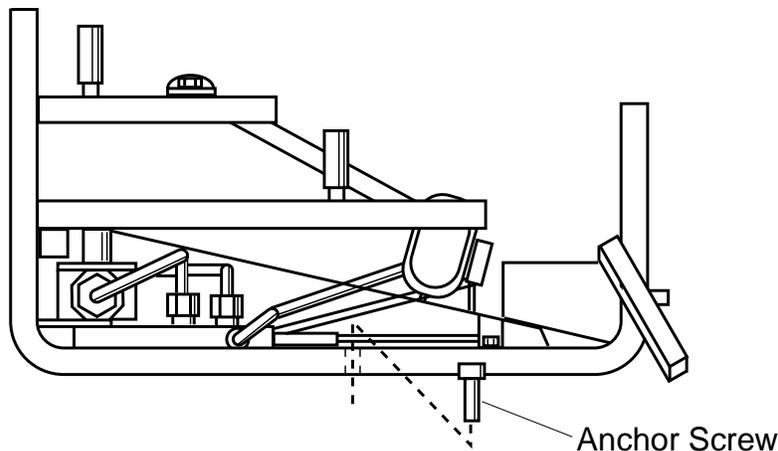

Figure 14 - Securing Heater to Floor of Fireplace/Firebox
2. Refer to Figure 14 for hole locations. After centering the grate correctly, mark the hole positions on the fireplace/firebox floor. Drill two (2) $\frac{5}{32}$ " diameter holes approximately $1\frac{1}{2}$ " deep.
3. Anchor the grate to the fireplace/firebox floor using the screws provided. *Refer to Figure 14.*